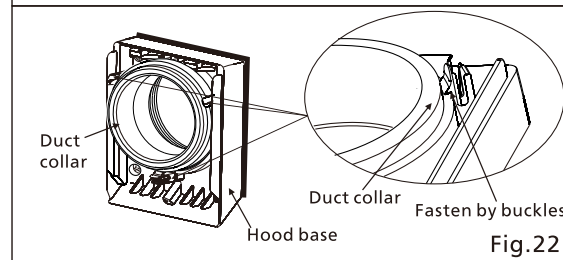

Fig.22
8. Press duct collar and flexible duct until duct collar fits into hood base completely.(Fig. 22)